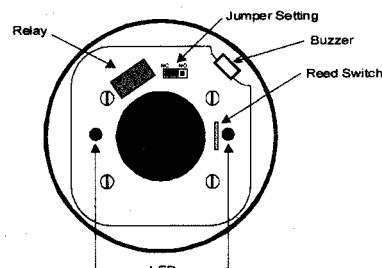

Fig. 4 Schematic of detector Structure When front cover is open.
- To adjust the normal condition of the relay to "normally closed" (NC),
- Refer to Figure 4. There is a jumper head next to the relay on the PCB. Remove the jumper head and reinsert it in the NC position.